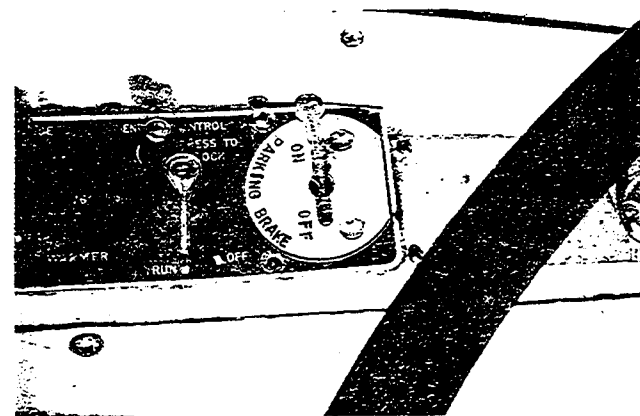

FIGURE 7 - TWO-WAY VALVE
7. Install two-way control valve as shown on drawing (Figure 7).